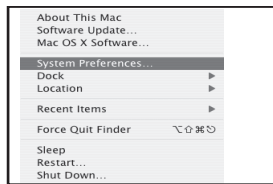

Figure 8
2. To select the G Track as the computer's audio input, open the System Preferences from the dock or the main Apple Menu (figure 8).